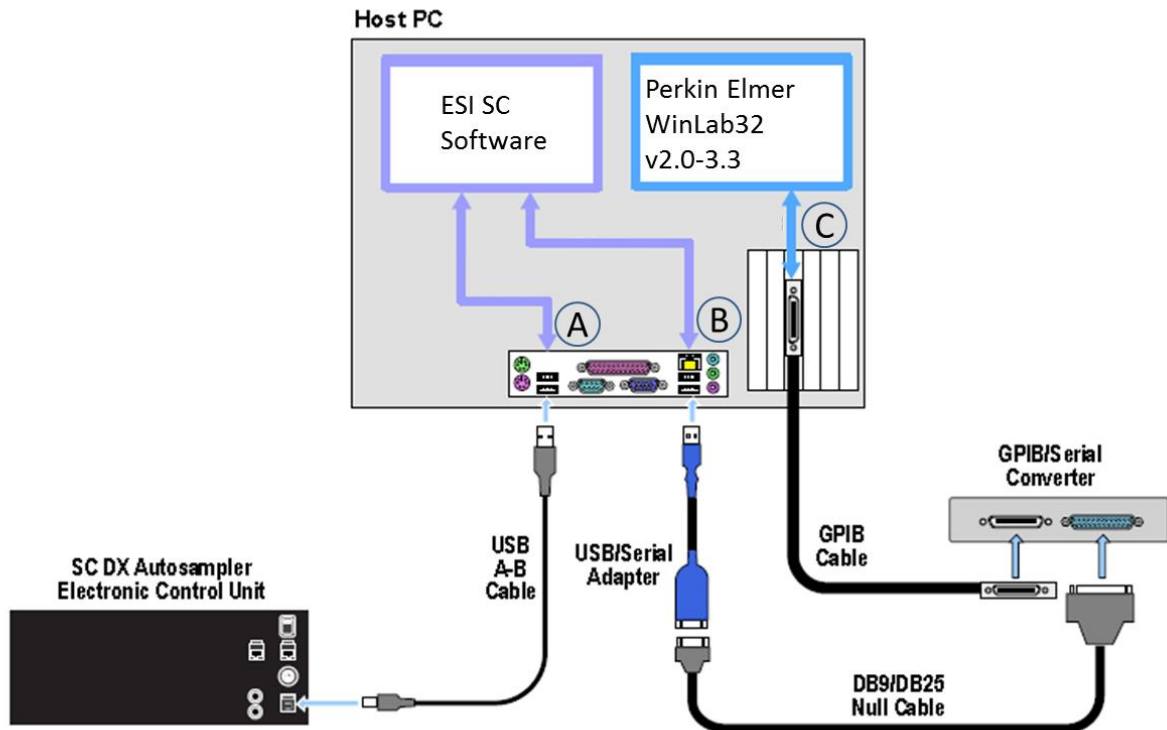

Figure 24: Connections for ESI SC with Optima and SC autosampler.
- 4) Connect 24 V DC power to the SC Autosampler. Connect the RS-232 cable from the physical COM port on the computer to the SC Autosampler control module at COM1. See Figure 24.